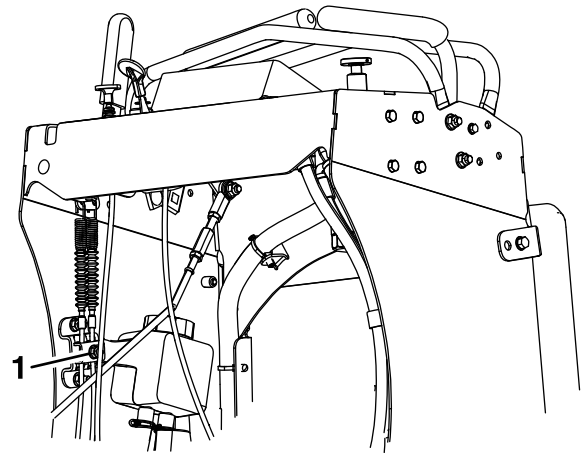

Figure 47
4. Loosen the cable clamp on the brake cables under the console (Figure 47).